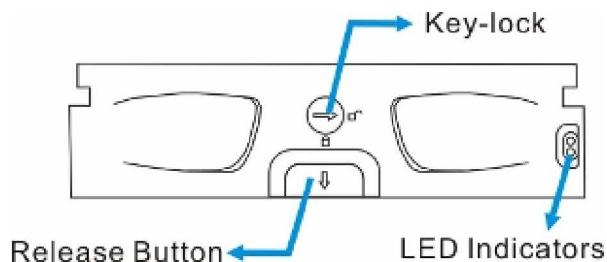

Figure 1-7: Drive Tray Front View
The FALCON III subsystem comes with sixteen (16) drive trays (see *Figure 1-7*) designed to accommodate separately purchased, standard 1-inch pitch, 3.5-inch SATA disk drives. The drive bays are easily accessible from the front of the enclosure. Each drive tray is pre-installed with a MUX kit. Two (2) LEDs on the front of the tray indicate the drive status. A key-lock on each drive tray secures the hard drive in place, while an easily accessible button ensures fast and efficient drive hot-swapping. Retention screw holes are located on the sides of the drive tray. These holes are reserved for securing hard drives to the tray.